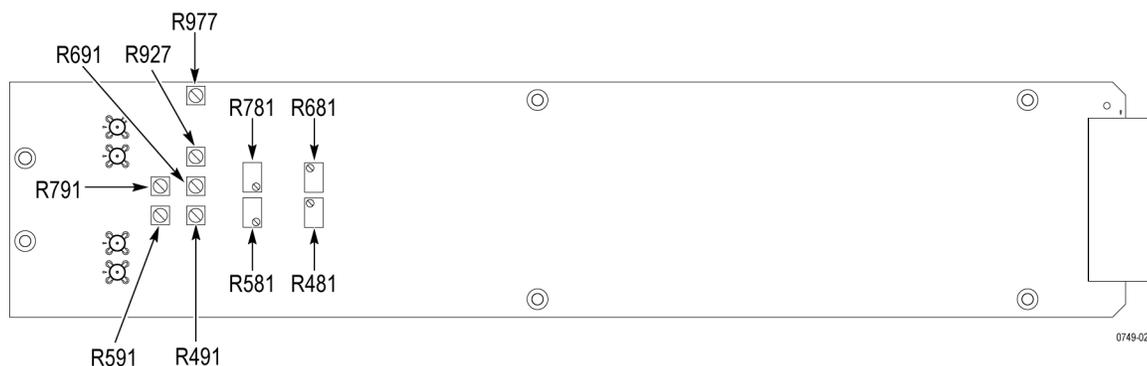

Figure 7: Variable resistors on the Option BG board
2. Locate the variable resistors on the BG circuit board. (See Figure 7.)
6. Locate variable resistor R491 on the BG circuit board. (See Figure 7.)
9. Locate variable resistor R591 on the BG circuit board. (See Figure 7.)
18. Locate variable resistor R481 on the BG circuit board. (See Figure 7.)
21. Locate variable resistor R581 on the Option BG circuit board. (See Figure 7.)
24. Locate variable resistor R681 on the BG circuit board. (See Figure 7.)
27. Locate variable resistor R781 on the BG circuit board. (See Figure 7.)
8. Locate variable resistor R927 on the BG circuit board. (See Figure 7.)
11. Locate variable resistor R977 on the BG circuit board. (See Figure 7.)